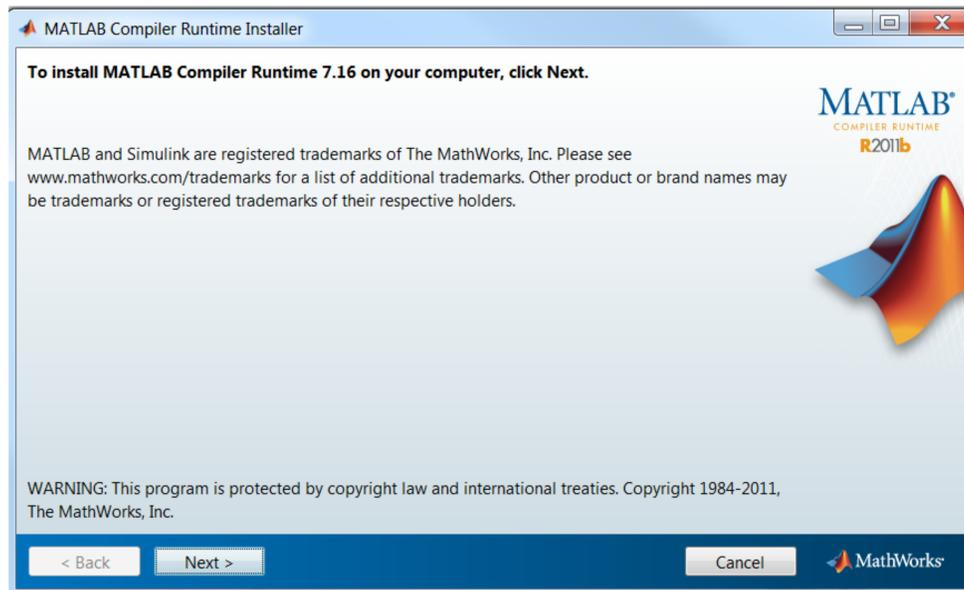

Figure 1. Installing the Matlab Runtime Engine
1. When the *MATLAB Component Runtime 7.16* screen (Figure 1) displays, click *Next*.